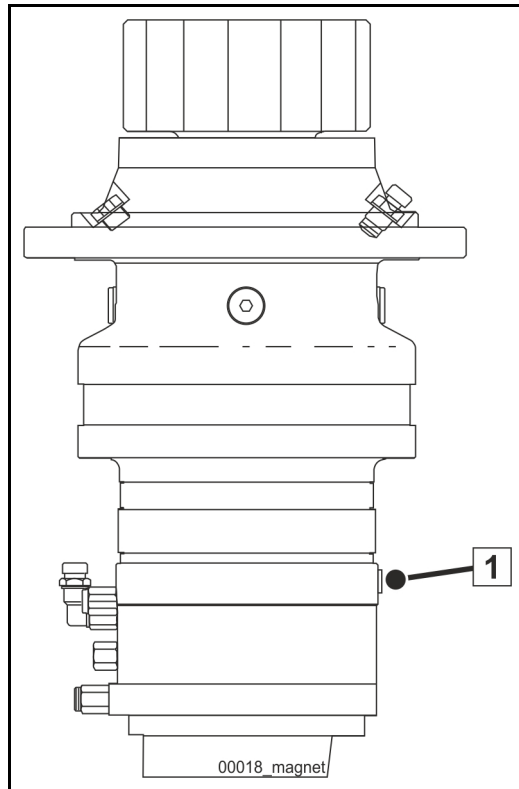

Fig. 312 Magnetic closing screw plug (1)
1. Check the magnetic closing screw plug on the gear for metal residue (1) (**Fig. 312**). In the event of large amounts of metal residue on the closing screw plug, contact Schwing's customer service